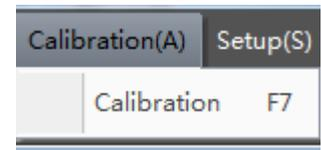

Figure 3.6 Calibratron Menu
3.2.3 Calibration (A)
The drop-down menu of “Calibration (A)” is shown in Figure 3.6.